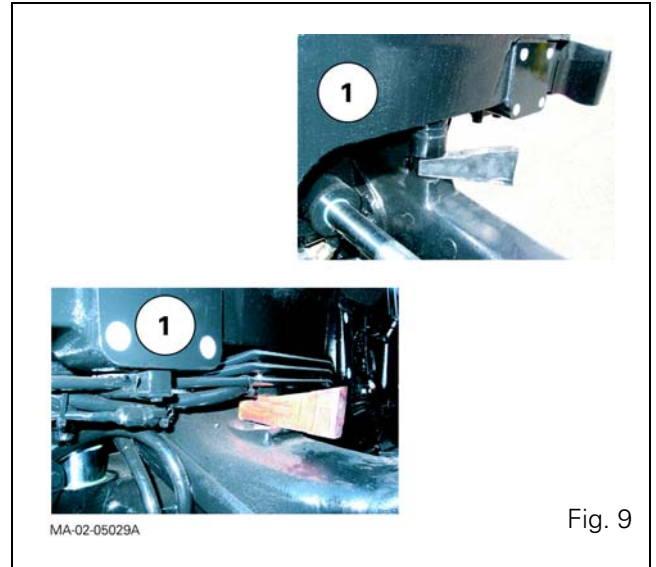

Fig. 9
20. Cancel the front axle oscillation (all versions) by sliding a suitable chock in at each side of the support (1) (Fig. 9).